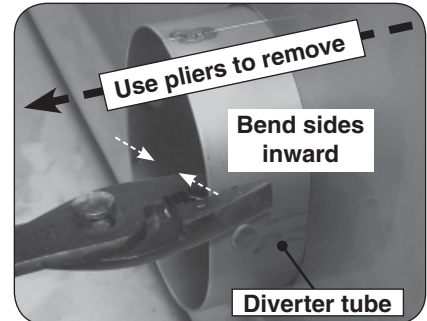
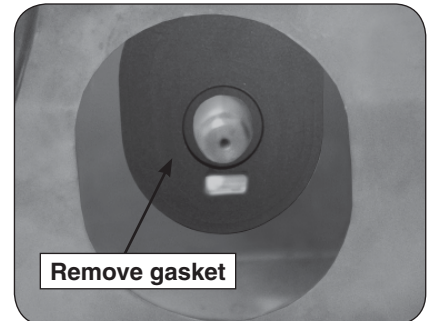

Fig. 2-3 Remove diverter tube
Fig. 2-4 Remove silicone gasket
- The grill is equipped with a heatshield kit for each main burner. This kit is only functional with the standard main burner, and must be removed for proper infrared burner operation. Use pliers to remove the diverter tube by bending in each side and pulling it outwards (see Fig. 2-3), then reach in and remove the silicone gasket (see Fig. 2-4).